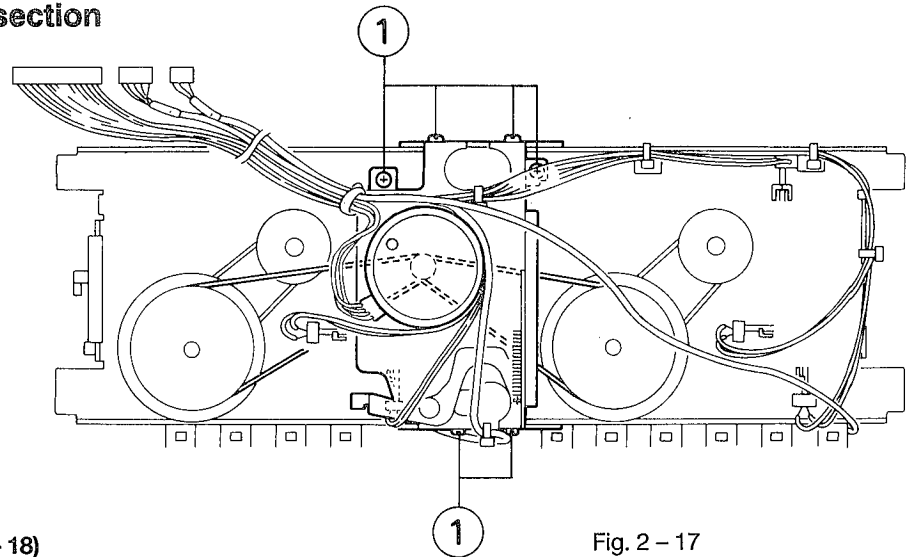
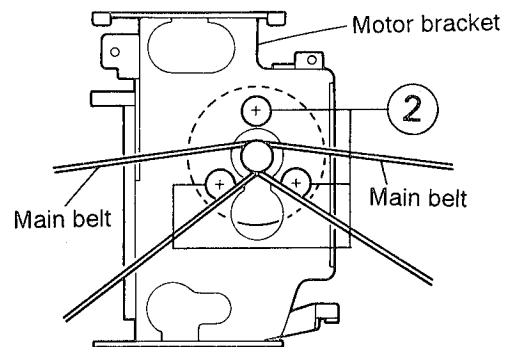

Fig. 2-17
Fig. 2-18
■ Removing the CD mechanism (See Figs. 2-17 and 2-18)
1. For dismounting only the CD mechanism without removing the CD mechanism assembly, align the shaft (L) of the CD mechanism assembly to the position shown in Fig. 2-17 while turning the cam R1 and R2 assembly in the arrow direction (K).
2. By raising the CD mechanism assembly in the arrow direction (M), remove the assembly from the lifter unit (Fig. 2-18).
■ Capstan motor (Fig. 2-17, Fig. 2-18)
5. Remove six screws ① retaining the motor bracket from the back of the cassette mechanism.
7. Remove six screws ② retaining the Capstan motor from the back of the cassette mechanism.